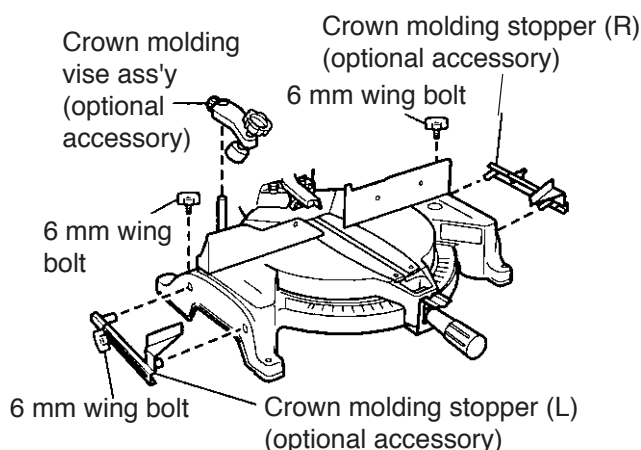

Fig. 19
(1) Crown molding stoppers (L) and (R) (optional accessories) allow easier cuts of crown molding without tilting the saw blade. Install them to both sides of the base as shown in Fig. 19. After inserting, tighten the 6 mm knob bolts to secure the crown molding guides.